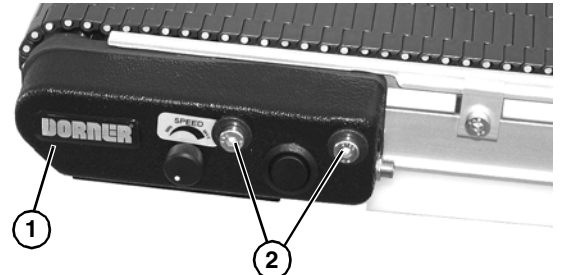

Figure 74
2. Remove inframe drive side cover (Figure 74, item 1) by removing two head plate fastening screws (Figure 74, item 2).